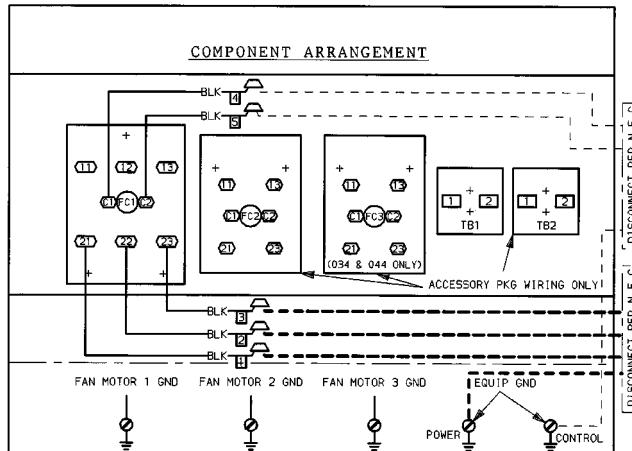

Fig. 2 — Component Arrangement
- 09DK020-028 Units:* Install fan contactor FC2 and terminal block TB2 inside control box. See Fig. 2. Disconnect red wire from FC1 $\textcircled{11}$ and orange wire from FC1 $\textcircled{13}$. Connect red wire to FC2 $\textcircled{21}$. Connect orange wire to FC2 $\textcircled{23}$. Attach 8-in. black wire provided in accessory package to FC1 $\textcircled{11}$ and FC2 $\textcircled{11}$. Connect the 8-in. blue wire to FC1 $\textcircled{13}$ and FC2 $\textcircled{13}$. Next, connect the 8-in. white wire to FC1 neutral side, and FC2 $\textcircled{C2}$. Attach the 18-in. black wire to FC1 control power side and TB2 $\textcircled{1}$. Connect one lead of ATS to TB2 $\textcircled{1}$ and connect the other lead to FC2 $\textcircled{C1}$.
09DK034,044 Units: Install fan contactors FC2 and FC3 and terminal block TB2 inside control box. See Fig. 2. Add terminal adapter to TB2 $\textcircled{1}$. See Fig. 2 and 3. Disconnect red and pink wires from FC1 $\textcircled{11}$. Also, disconnect orange and gray wires from FC1 $\textcircled{13}$. Connect red wire to FC2 $\textcircled{21}$ and pink wire to FC3 $\textcircled{21}$. Also, connect orange wire to FC2 $\textcircled{23}$ and gray wire to FC3 $\textcircled{23}$. Attach 8-in. black wire provided in accessory package to FC1 $\textcircled{11}$ and FC2 $\textcircled{11}$. Con-